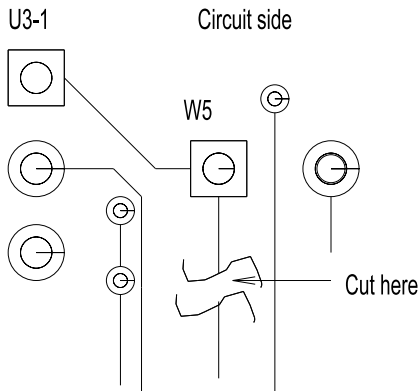

Figure 3-3 Modification for 64K EPROM
- 2 Cut a trace (write line) on the circuit side to Jumper W5. Refer to Figure 3-3 below.